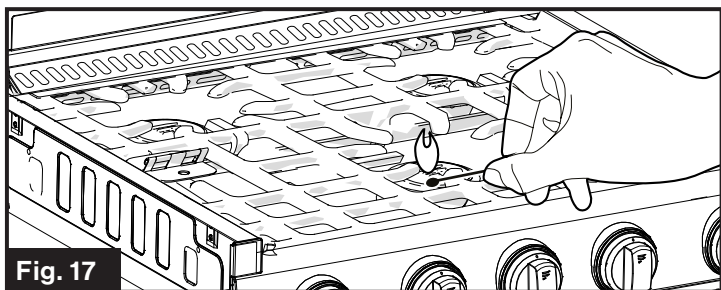

Fig. 17
2. Immediately strike and place a burning long wooden match or a gas lighter near the burner to light. (Fig. 17)